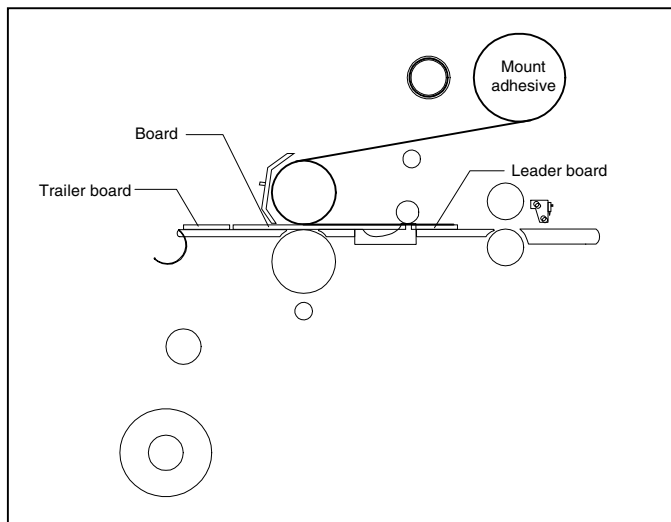

Fig. 35
**TIPS FOR PRE-COATING BOARDS (Figure 35)**
1. Load the laminator as illustrated in Figure 35.